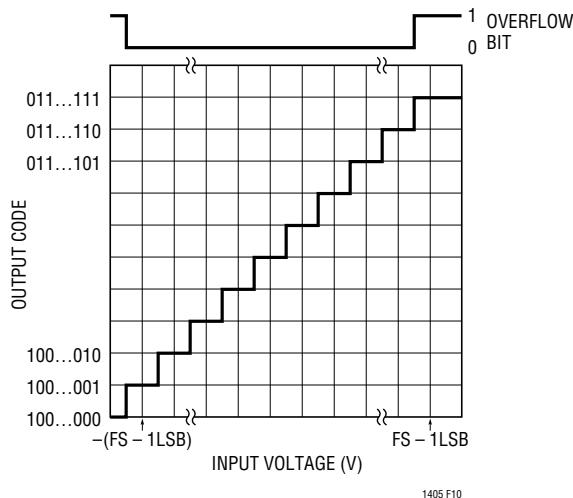

Figure 10. LTC1405 Transfer Characteristics
Figure 10 shows the ideal input/output characteristics for the LTC1405. The output data is two's complement binary for all input ranges and for both single and dual supply operation. One LSB = $V_{REF}/4.096$. To create a straight binary output, invert the MSB (D11). The overflow bit (OF) indicates when the analog input is outside the input range of the converter. OF is high when the output code is 1000 0000 0000 or 0111 1111 1111.